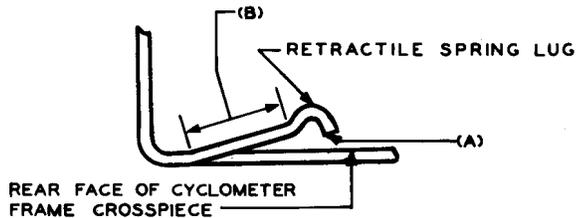

Fig. 12—Coil Spring Lug Position
(a) **Figure 12, (A):** The front of the coil spring lug shall not extend further than the rear face of the cyclometer frame crosspiece nor backward further than 7/32 inch from the same face.
(b) **Figure 12, (B):** The offset portion of the lug shall be approximately straight except at the outer portion to which the coil spring is attached.